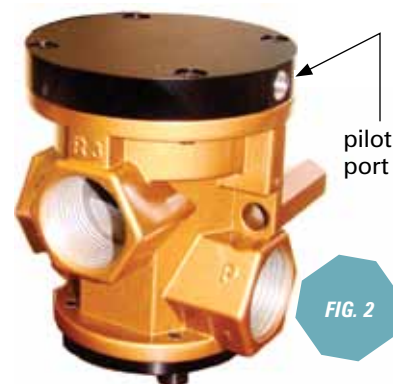

FIG. 2
When the vacuum cups are placed against the product to be lifted, the pneumatic pilot **control valves** (Fig. 2) are powered by the control supply circuit. The **safety valves** (S1 and S2), which are normally closed (NC), are powered OPEN by the Mains Supply, allowing vacuum to reach the cup face. The part is lifted by the machine. When the pilot signal is removed from C1 and C2, the part is released.
Vacuum filtration is not shown in *Fig. 1* or *Fig. 2*, however, vacuum filters should always be used to protect the pump or generator from debris on the parts being handled. That being said, the selection of filtration models and most importantly where they are placed in a vacuum circuit will determine the safety of the complete lifting application. Some manufacturers offer filter pads or disks that are installed *inside* the vacuum cup. These are very rarely a good idea. The simple reason is that unless they are checked very regularly, the user is unaware of how much these filters are restricting vacuum flow and indeed the lifting force of the associated cup. It is also very hard to know if the filters are clogged. The vacuum reading taken from the circuit via either a gauge or transducer could be much higher than what the actual cups are experiencing.